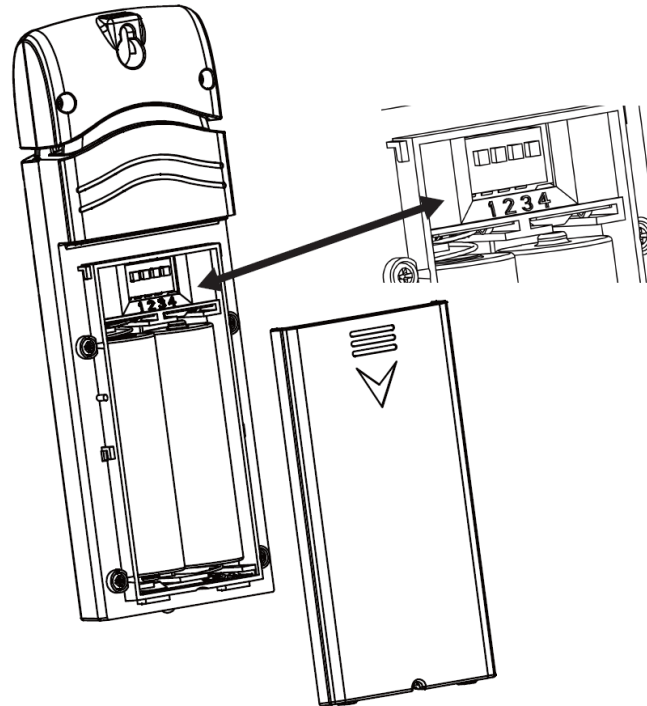

Figure 17
1. Remove the battery door on the back of the transmitter(s) by sliding down the battery door, as shown in Figure 17.